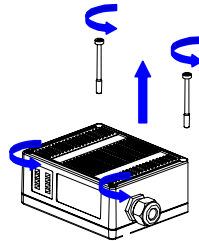

Figure 2
- 2) Loosen all four cover screws on the scanner removing the two cover screws from the scanner on the side closest to the Laser beam output window. See Figure 2.